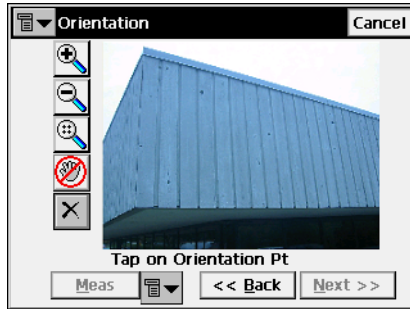

Figure 6-45. Perform Orientation
2. Perform image orientation. On the **Orientation** screen (Figure 6-45), associate a position on the image (x,y) with a known coordinate (N,E,Z).